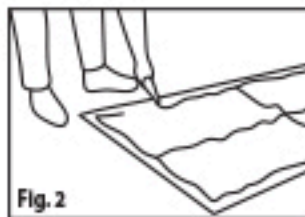

Fig. 2
4. Remove the panel from the marked installation area, flip over and apply a continuous bead of NP-1 adhesive to the back of the panel approximately $\frac{3}{4}$ " from the edge following the scored perimeter and center cross pattern. (Figure 2)